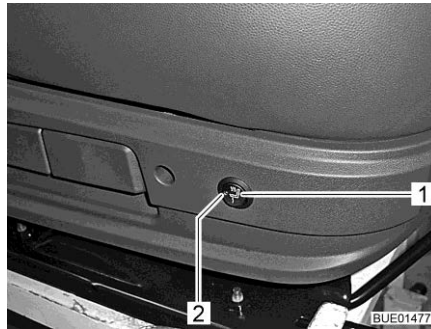

Fig. 36 Switch for seat heater
- Press the switch (Fig. 36,1) at the back on the left side of the seat console.
The LED (Fig. 36,2) comes on when the seat heater is in use.
- Set switch (Fig. 36,1) to the middle position. The LED goes out.